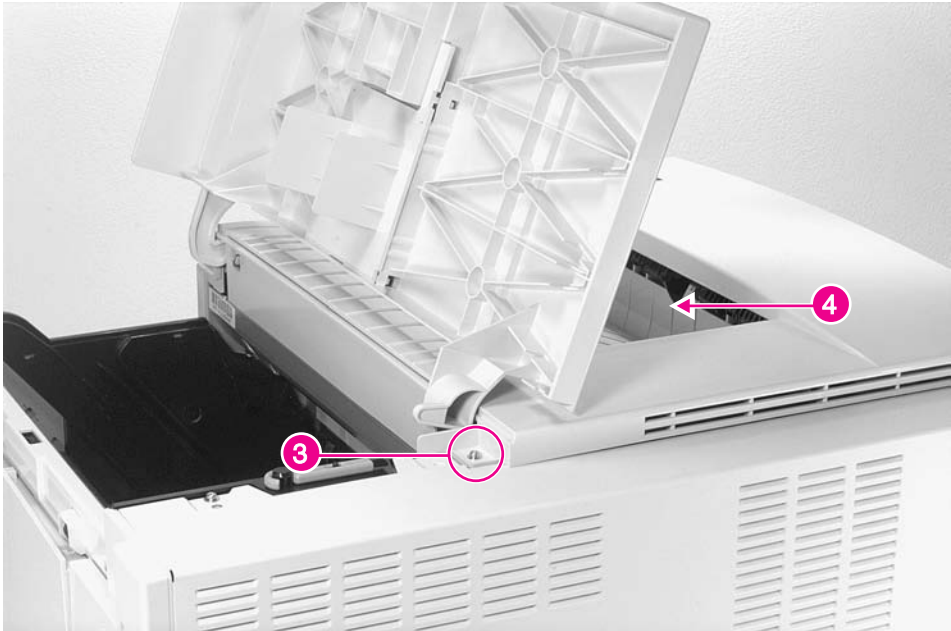

Figure 6-11 Top Cover (2 of 2)
- 3 Open the top cover door, and remove 1 screw (figure 6-11, callout 3).
Be careful not to damage the Face-down Bin Full sensor flag (figure 6-11, callout 4) when removing the top cover.
Be careful not to damage the Face-down Bin Full sensor flag (figure 6-11, callout 4) when replacing the top cover.
- 2 Slide the Face-down Bin under the Face-down Bin Full sensor flag, and make sure that the cam (figure 6-11, callout 4) at the rear of the top cover door is properly positioned while lowering the top cover into place.